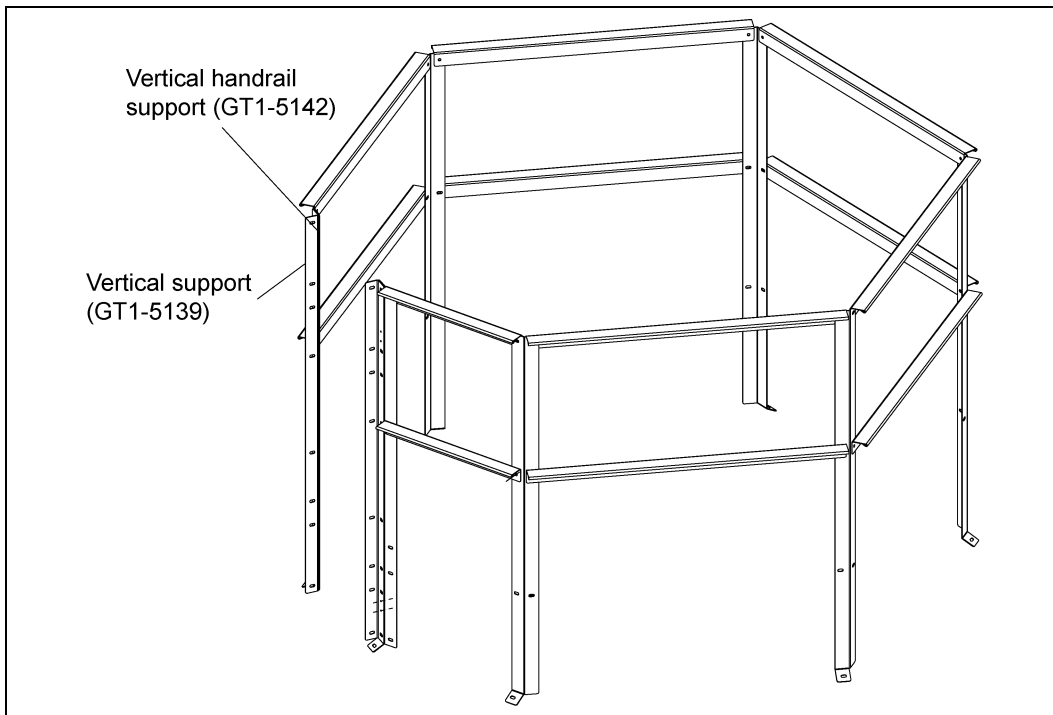

Figure 3G
6. Assemble vertical support (GT1-5139) with vertical handrail support (GT1-5142). Assemble this assembly, with horizontal handrail support (GT1-5137) using 5/16" hardware. (See Figure 3G.)